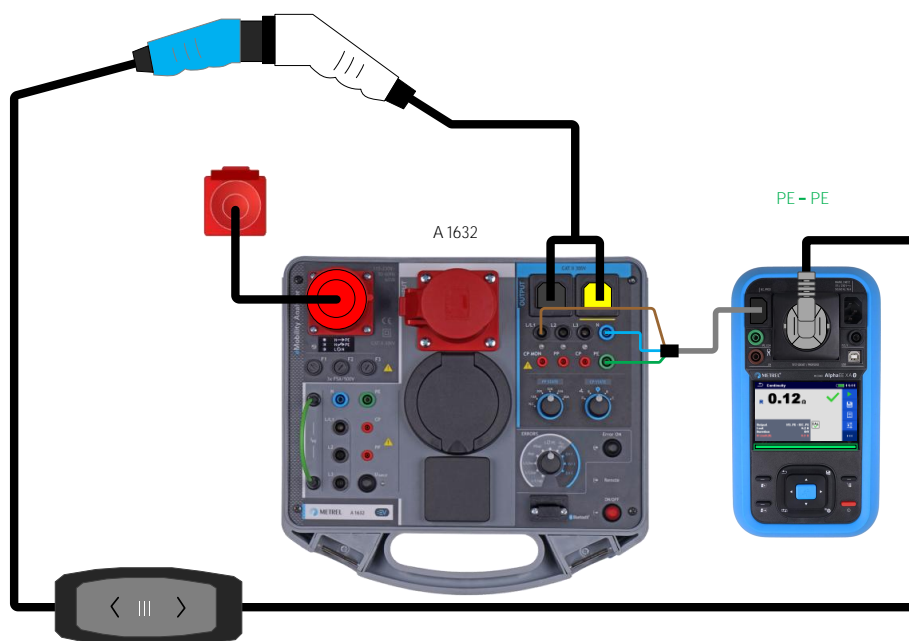

Figure 31_ Continuity of protective earth
- Connect the EV cable according to the connection diagram Figure 31_Continuity of protective earth,